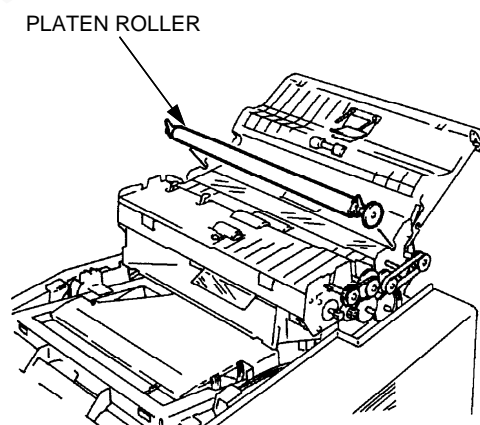

Figure 1. Platen roller
3. Loosen the the two stopper screws allowing the upper scanner to swing completely open (figure 1).